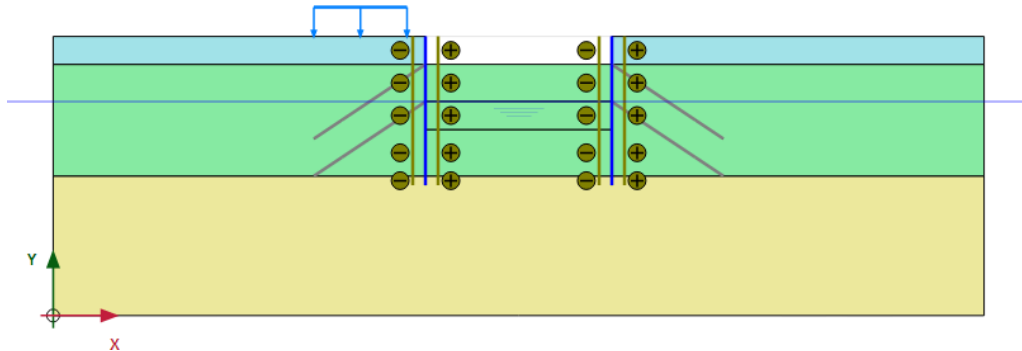

Figure 7–9: Configuration of Phase 2 in the Staged construction mode
- 6 Set the **Behaviour** of the embedded beam to **Grout body** as shown in Figure 7–4 \(p. 128\).
The model for the first excavation phase is shown in Figure 7–9 \(p. 131\):
The model for the phase 3 in the Staged construction mode is shown in Figure 7–10 \(p. 132\):